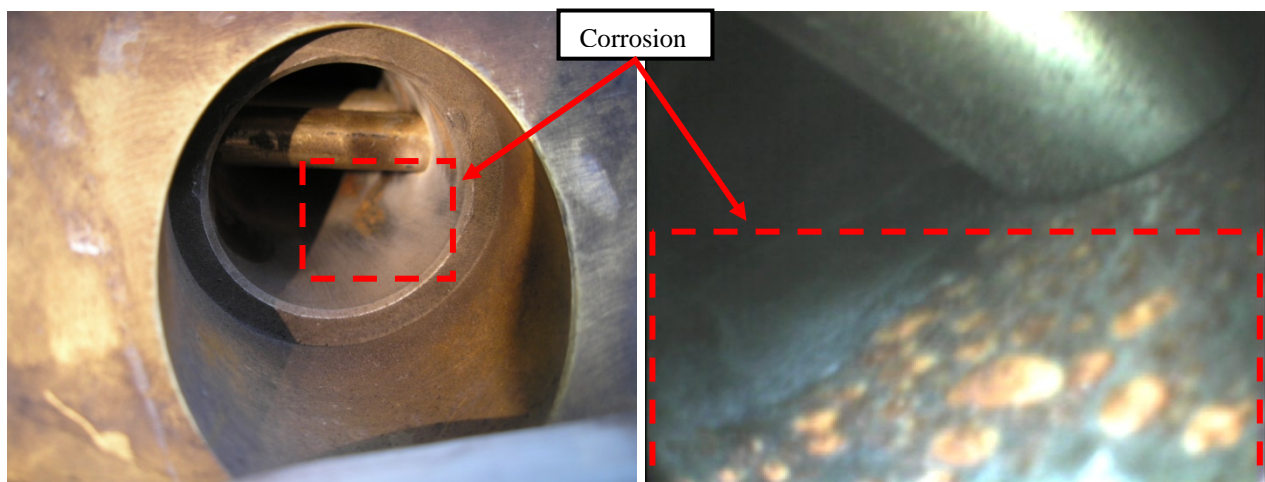

Figure 5-1: Main Landing Leg Tube Corrosion
2. Inspect the inside bore of the gear leg for corrosion, specifically around the bolt holes, as shown in **Figure 5-1**.